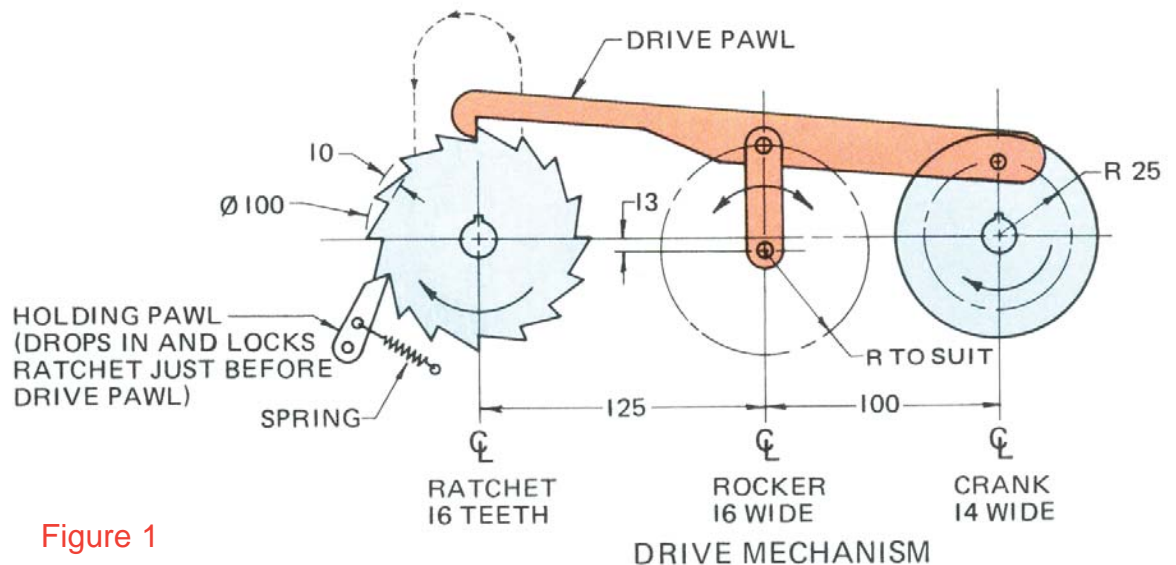

Figure 1
2. Ratchet and Crank Mechanism. Lay out a one-view drawing of the ratchet design shown in Fig. 1. Two pawls are used, a drive pawl as shown and a holding pawl held in position by a spring. Using crank rotation positions every 22.5 degrees, plot the path of the end of the drive pawl. Use your judgement for dimensions not shown. Scale 1:1.